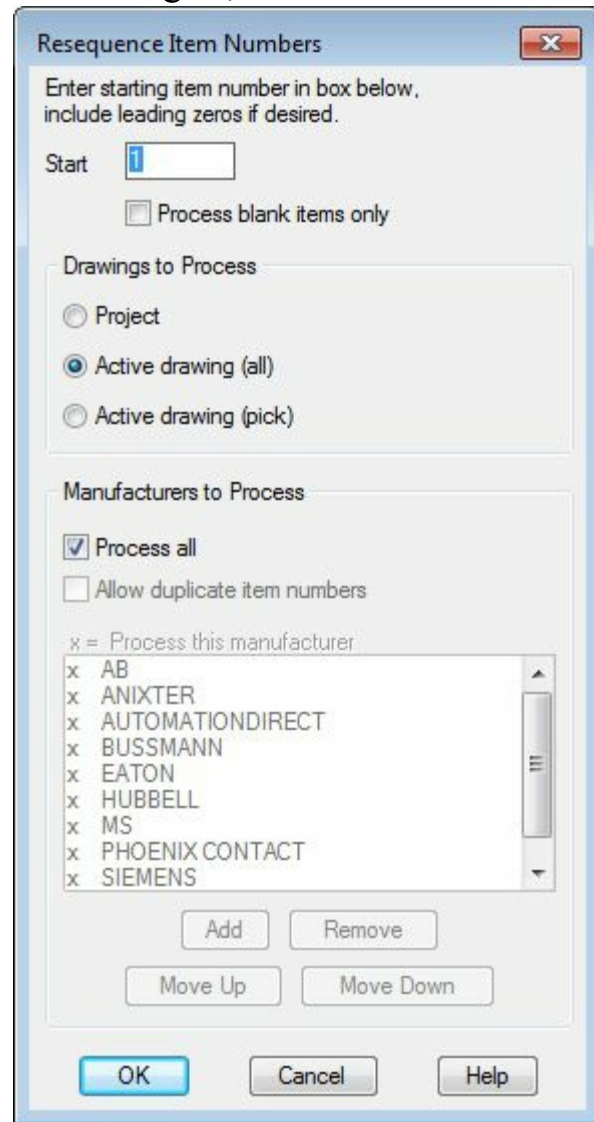

Figure-42. Resequence Item Numbers dialog box
- Click on the **Resequence Item Numbers** tool from the **Edit Footprints** panel. The **Resequence Item Numbers** dialog box will be displayed; refer to Figure-42.